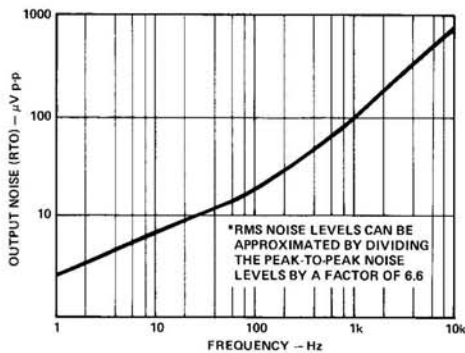

Figure 4. Output Voltage Noise vs. Bandwidth
**Output Voltage Noise:** Peak-to-peak output voltage noise is dependent on bandwidth, as shown in Figure 4. The graph shows RTO noise, that is, output noise for a gain of 1V/V through the isolator. For lowest noise performance, a low pass filter at the output can be used to roll-off noise and undesired signal frequencies beyond the bandwidth of interest. As gain increases, voltage noise referred-to-input decreases, resulting in higher input signal to noise ratios. The next section demonstrates how voltage noise, referred-to-input, can be calculated.